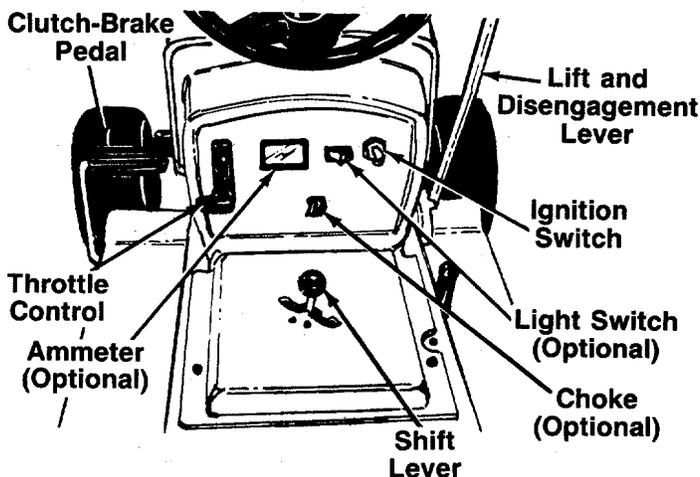

FIGURE 8.
The throttle control is used to regulate the engine speed. To get maximum efficiency from cutting, the throttle should be in the FAST position when operating the mower. See figure 8.
The choke control is located on the dashboard and is operated manually. Details for the choke operation are covered in the separate engine manual packed with your unit. See figure 8.
The shift lever is located in the center of the console and has three positions, FORWARD, NEUTRAL and REVERSE. See figure 8. The clutch-brake pedal must be depressed and the lawn tractor must not be moving when shifting gears. Do not force the shift lever.
Turn the key to the START position to start the engine. When the engine is running, let the key return to the ON position. To stop the engine, turn the key to the left to the OFF position and remove it to prevent accidental starting. See figure 8.
Push the light switch to turn on the lights. The lights will only operate when the engine is running. See figure 8.
The ammeter registers the rate of battery charge or discharge. The ammeter will register on the discharging side when starting the engine. It should register on the opposite side (charging) when the engine is running in the fast position until the battery is completely charged. With a fully charged battery or with the engine idling, the ammeter will not show a charge. See figure 8.
The clutch-brake pedal is located on the left side of the lawn tractor. Depressing the clutch-brake pedal part way disengages the clutch. Pressing the pedal all the way down disengages the clutch and engages the disc brake. See figure 8.
4. Set the throttle control in the FAST position. See figure 8.
6. Turn the ignition key to the START position. When the engine is running, let the key return to the ON position. See figure 8.